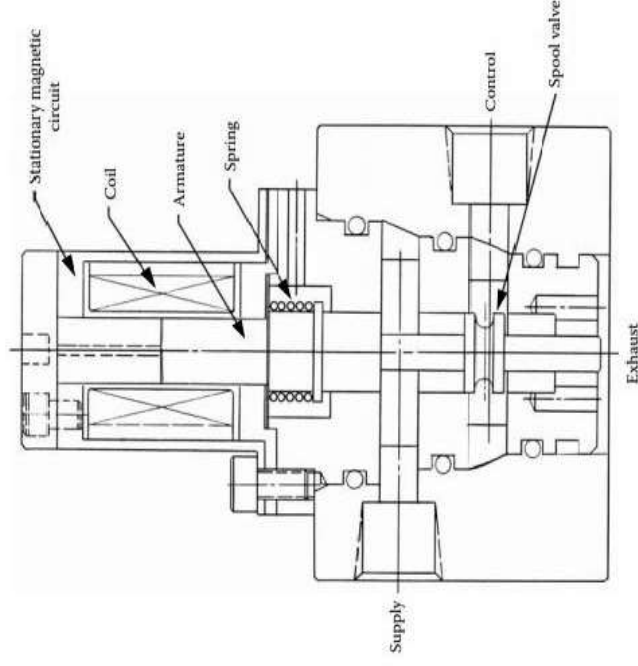

**FIGURE 3.58**
- The original design of the solenoid actuator for the compressor is shown in Figure 3.58.